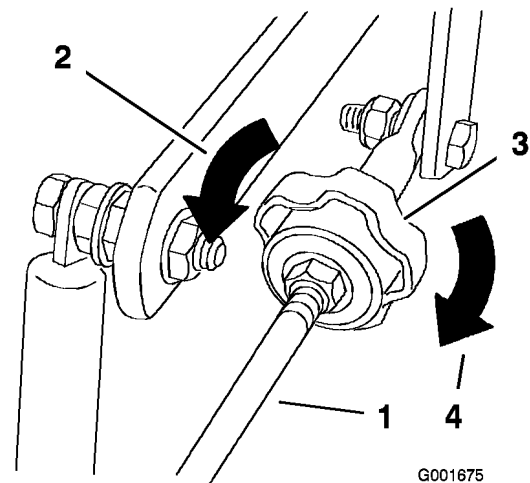

Figure 41
4. To make the machine go right, turn the knob towards the rightside of the machine. Refer to Figure 41.
5. To make the machine go left, turn the knob towards the leftside of the machine. Refer to Figure 41.